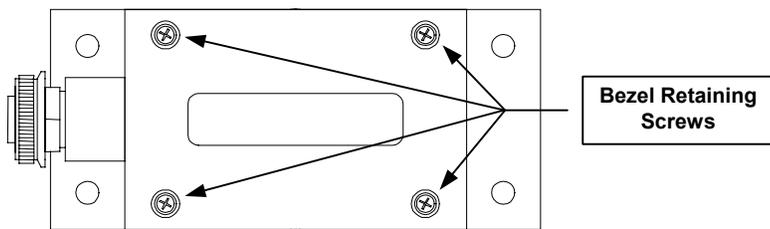

Figure G.5-6: Model 10XR Bezel Retaining Screws
- 3) Remove the four bezel retaining screws {Figure G.5-6}. Be sure to hold the bezel in place when the screws are removed.